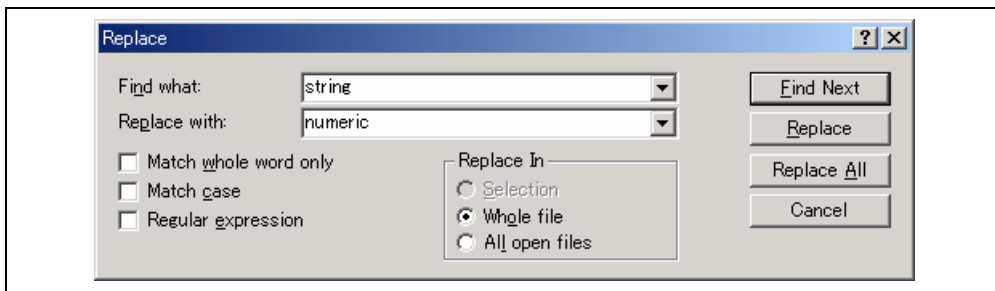

Figure 4.4: Replace Dialog
3. Select **[Edit->Replace...]**, press **CTRL+H** or select **[Replace...]** from the editor window's local menu. A replace dialog box will be displayed (figure 4.4).